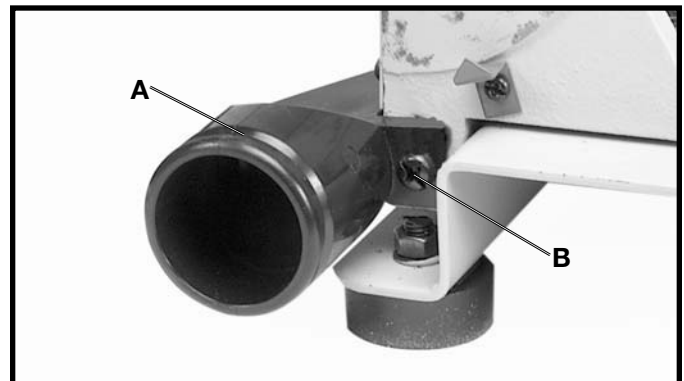

Fig. 12
- Assemble the sanding disc dust chute (A) to the disc sander base using the M6x15mm cheese head screw and 6.4mm external tooth washer (B), as shown in Fig. 12.